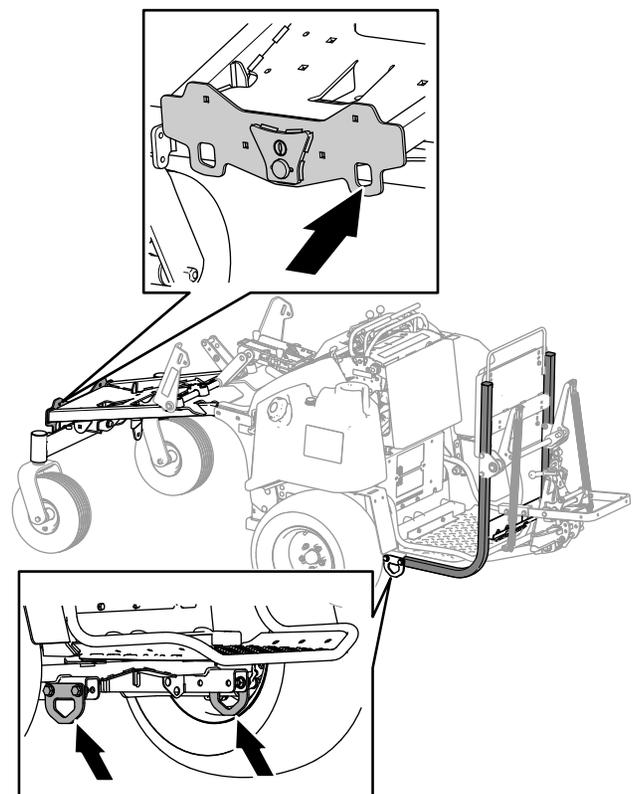

Figure 61
8. Tie down the machine at the front frame and the tie-down plates at the rear-attachment frame (Figure 61) with straps, chains, cable, or ropes.